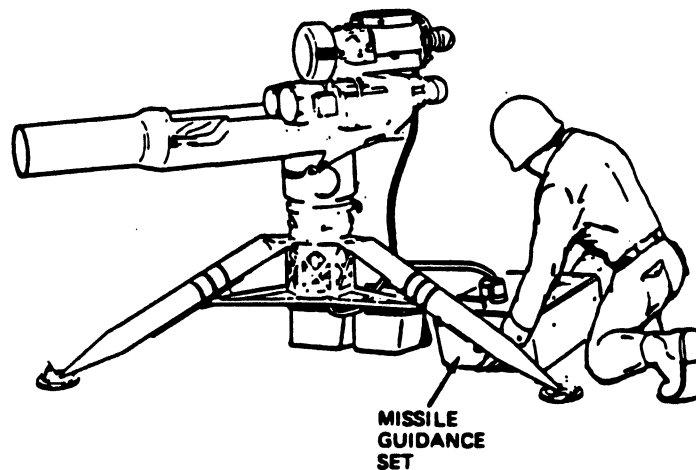

Fig 2-19. Positioning the missile guidance set (MGS).
Step 2. Place the MGS close to the rear of the tripod and clear of loading and firing operations (fig 2-19).